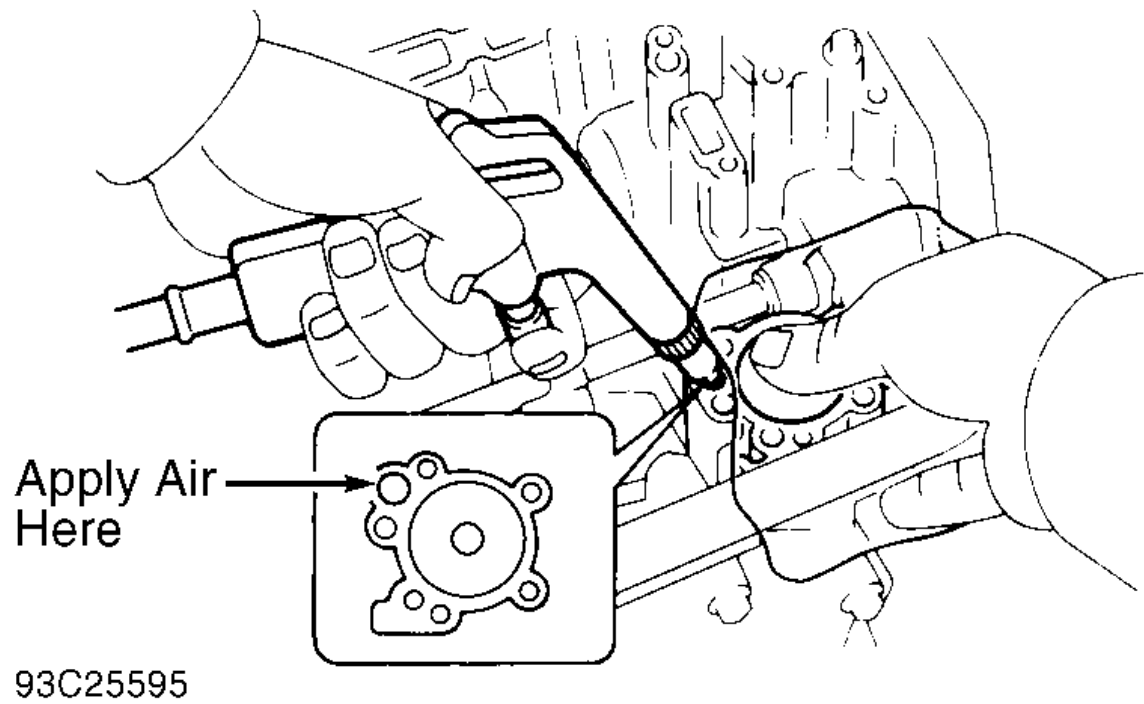
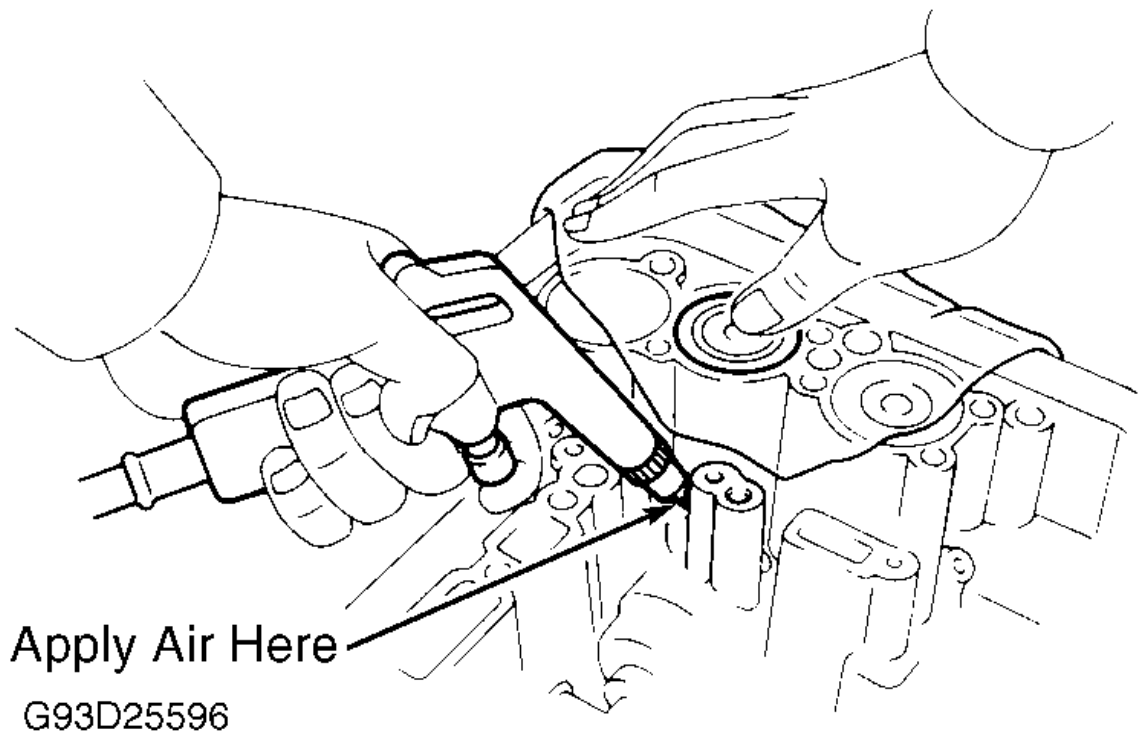

Fig. 14: Removing Underdrive Clutch Accumulator Piston & Spring
Fig. 15: Removing Direct Clutch Accumulator Piston & Spring
5. Apply 14 psi (1 kg/cm²) of compressed air to oil passage to remove underdrive clutch accumulator piston and spring. See Fig. 14 . Loosen accumulator cover bolts evenly until spring tension is released. Remove cover and gasket. Remove forward clutch accumulator piston and springs. Apply 14 psi (1 kg/cm²) of compressed air to oil passage to remove direct clutch accumulator piston and spring. See Fig. 15 .
3. Apply 14 psi (1 kg/cm²) of compressed air to oil passage to remove underdrive clutch accumulator piston and spring. See Fig. 21 . Remove forward clutch accumulator piston and springs. Apply 14 psi (1 kg/cm²) of compressed air to oil passage to remove direct clutch accumulator piston and spring. See Fig. 15 .